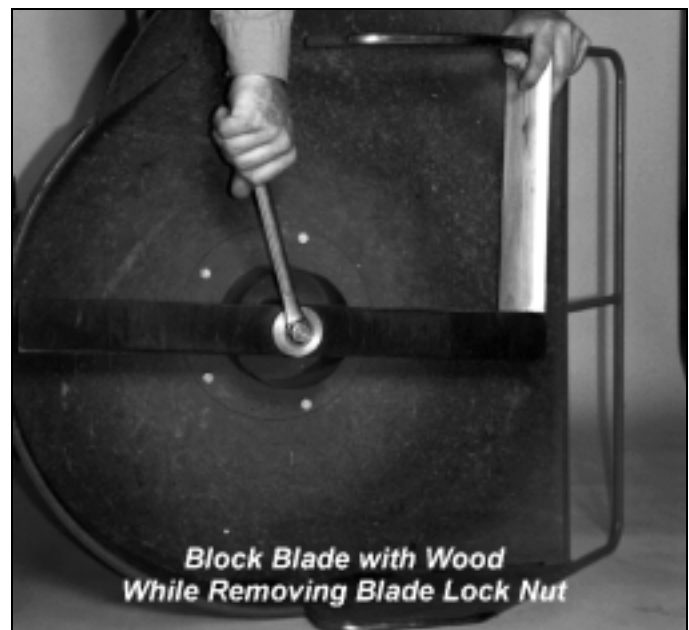

Figure 23
1. Block the blade with a piece of wood between the blade and the skid on the chute side of the deck (*Figure 23*).